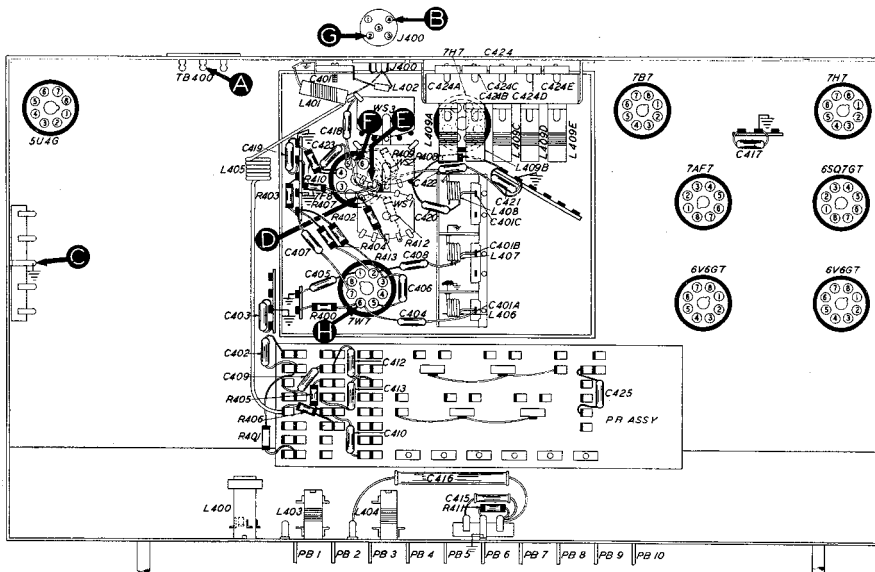

Figure 5. Bottom View, Showing Section 4 Test Points
**LOCATION OF COILS**—For the location of coils L406, L407, and L408 (steps 11 and 15), refer to the base layout of Section 4, figure 5.